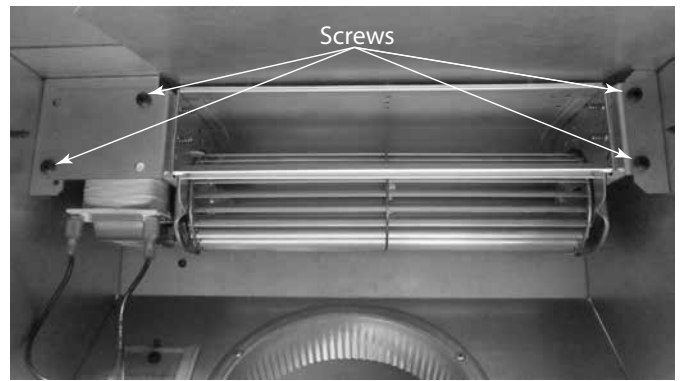

Figure 3.31
- Secure the fan to the mounting brackets with (4) screws provided. See Figure 3.31.